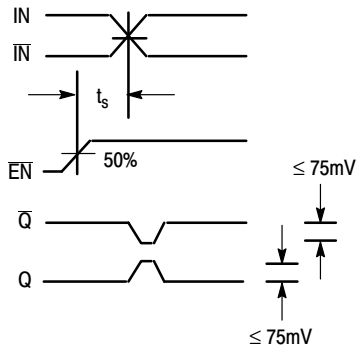

Figure 3. Setup Time
7. The setup time is the minimum time that \overline{EN} must be asserted prior to the next transition of IN/ \overline{IN} to prevent an output response greater than +75 mV to that IN/ \overline{IN} transition (Figure 3).